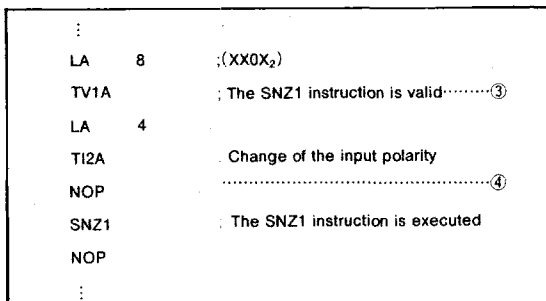

Fig. 70 External 1, 2 interrupt program example
- Clear the bit 1 of the register V1 to "0" before the input edge polarity of the interrupt input pins INT₁ and INT₂ are changed with the bit 2 of the register I2 (refer to Fig. 70③).
- Depending on the input state of pins INT₁ and INT₂, the external 1 interrupt request flag EXF1 may be set when the input edge polarity is changed. Accordingly, set a value to register I2, and execute the SNZ1 instruction after executing at least one instruction (refer to Fig. 70④), and then clear the EXF1 flag.